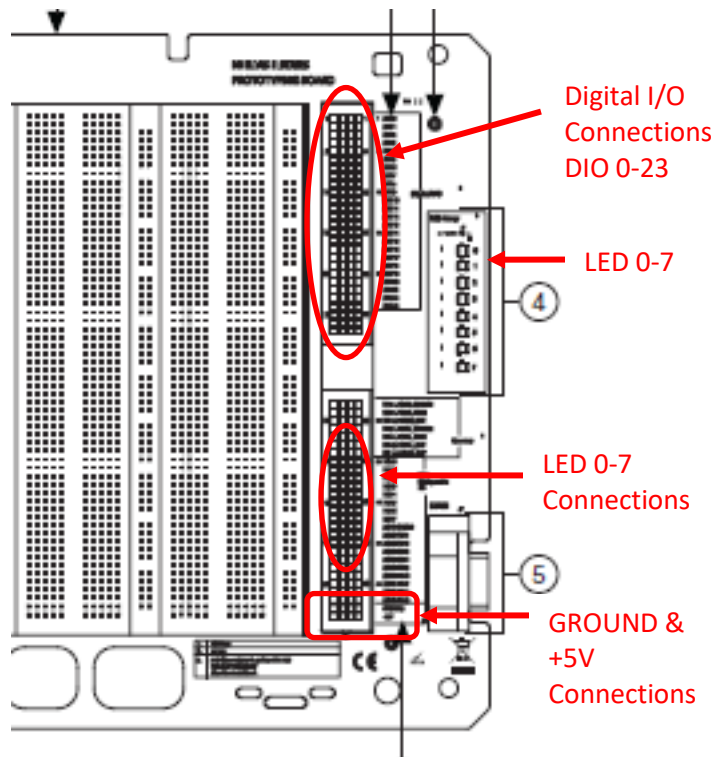

Figure 5. ELVIS Project Board
**LEDs:** Light-Emitting Diodes (LEDs) can be used to display the state of any digital signal. Usually, LEDs are connected so that if the state is HIGH, the LED is on. There are 8 LEDs on the right side of the ELVIS unit, as shown in Figure 5. Connections to these LEDs are made via the breadboard holes on the right side of the project board, circled in Figure 5.
To launch the Digital Reader, click on “DigIn” in the Instrument Launcher. The Digital Reader, shown in Figure 8, displays the states of 8 digital signals connected to the DIO (Digital Input/Output) positions in the header at the upper right side of the ELVIS unit (see Figure 5 above.) DIO signals are allocated to the Digital Reader and Digital Writer in groups of 8 (DIO 0-7, DIO 8-15, and DIO 16-23). Figure 8 shows the states of signals to DIO 8-15. Each wire of the test circuit whose state is to be displayed in the Digital Reader should be connected to one of the DIO positions on the breadboard. Clicking the Run button in the Digital Reader initiates acquisition and display of signal states. In the Instrument Control section of the Digital Reader, “Dev1 (NI ELVIS II+)” should be selected as the Device and “Run Continuously” as the Operating Mode.
Your lab instructor will show you how to insert DIP IC chips into the ELVIS breadboard, and also how to remove (extract) chips from the breadboard using the wire strippers. Note that the ELVIS power supply outputs GROUND and +5V are available in the lower right corner of the project board, as shown in Figure 5. ***You should always double-check power supply connections before you turn on the project board, as incorrect connections could damage the workstation and chips.*** Each time you obtain a chip, inspect it to make sure it is the right part number (see the next paragraph), and to make sure all the pins are intact. Very often, people put chips back in the wrong bin. It is also common for pins to break off due to careless handling. If a pin breaks, inform your instructor and discard the chip. **Do not put it back into the bin.**